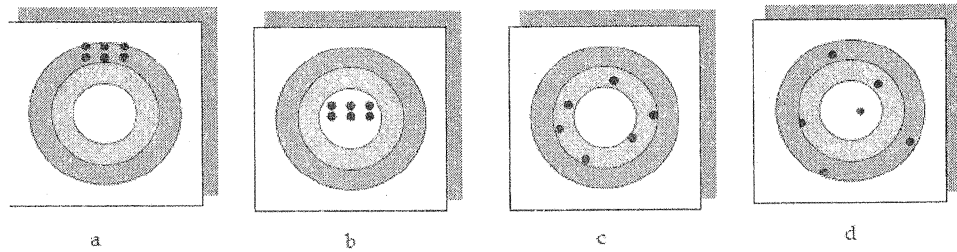

Figure Q1(b): Characteristics of a Measuring Instrument
- b) Figure Q1(b) shows some important characteristics of a prospective measuring instrument.
- Compare a, b and c, d images of Figure Q1(b) respectively.